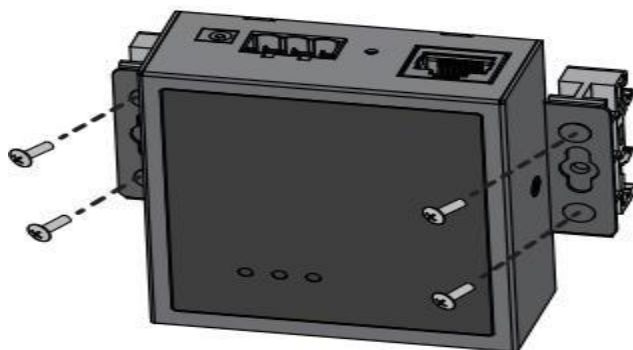

Fig.2 Fix DIN-Rail mount kit.
- If you have purchased the DIN-Rail mount kit, proceed to place the screws on the back of the device as shown in Fig.2.